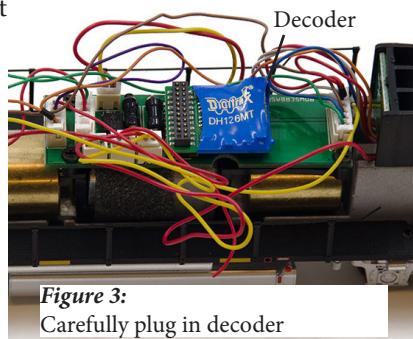

Figure 3: Carefully plug in decoder
3. Insert the 21MTC socket onto the exposed pins. The black socket and the decoder text should be facing up. The socket is indexed so it will only fit on in one configuration. **(Figure 3)** Seat the decoder firmly on the pins.